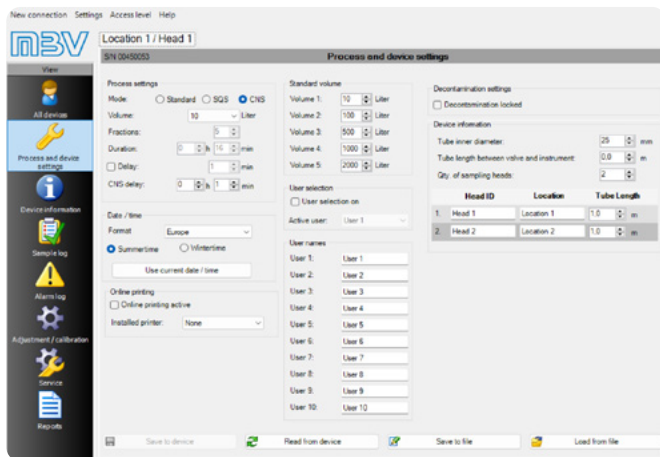

Figure 6: C&C software - Process and device settings
- Go to 'Process and device settings' (Figure 6).